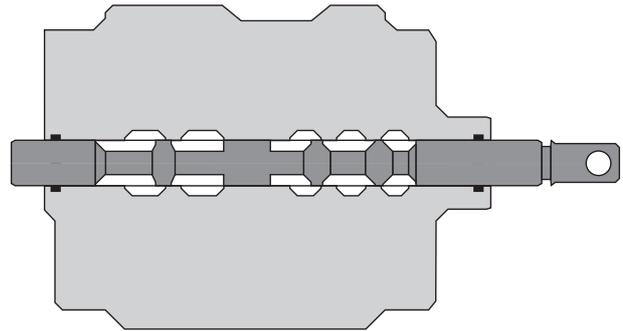

Fig 171.
- 3 ⇒ Fig 171. (E-208). Position the spool in its central position as shown. Re-assemble the centring assembly, dust boot etc as detailed previously in this section.